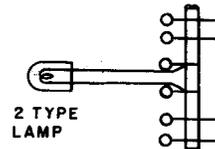

Fig. 11—240F Plug
- (e) **240F:** The 240F plug (Fig. 11) is equipped for a 2-type lamp which must be ordered separately. The 240F plug is used with 328- and similar-type jacks on step-by-step switches.